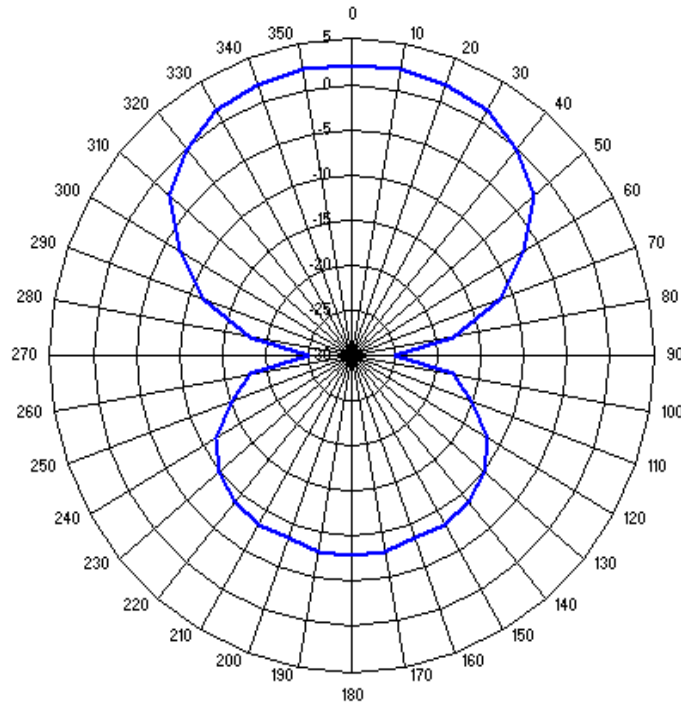

Figure 5. The listening footprint for an antenna held horizontally; northward ( $0^\circ$ ) sets the signal's source.
**Antenna.** Understanding the antenna’s performance may assist in tracking the signal. In figure 5, the antenna’s listening pattern, the sound intensity appears loudest when the antenna points directly at the signal’s origination (0 degrees). **Backfeed** may be heard when the antenna receives a signal from the opposite direction as well. An alternative exists to determine the correct direction when following the loudest signal is not possible. Holding the antenna horizontally, identify the “signal nulls,” or the sections in which the beeping disappears completely, as opposed to the “signal peaks,” while turning in a complete circle. Walking in the direction exactly opposite to the middle of the null areas forms a viable option.